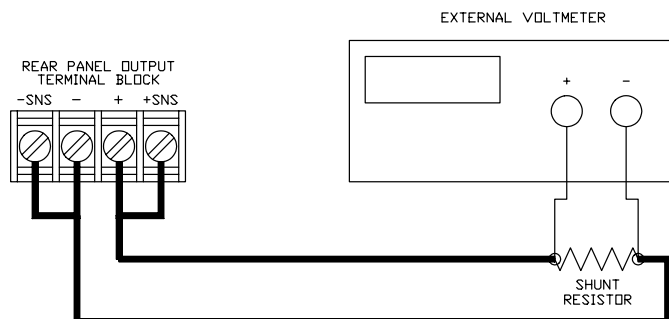

Figure 4.2 Current Calibration Setup
1. Connect the shunt and voltmeter to the power supply as shown in Figure 4.2.
1. Connect the current shunt and voltmeter to the power supply as shown in Figure 4.2.